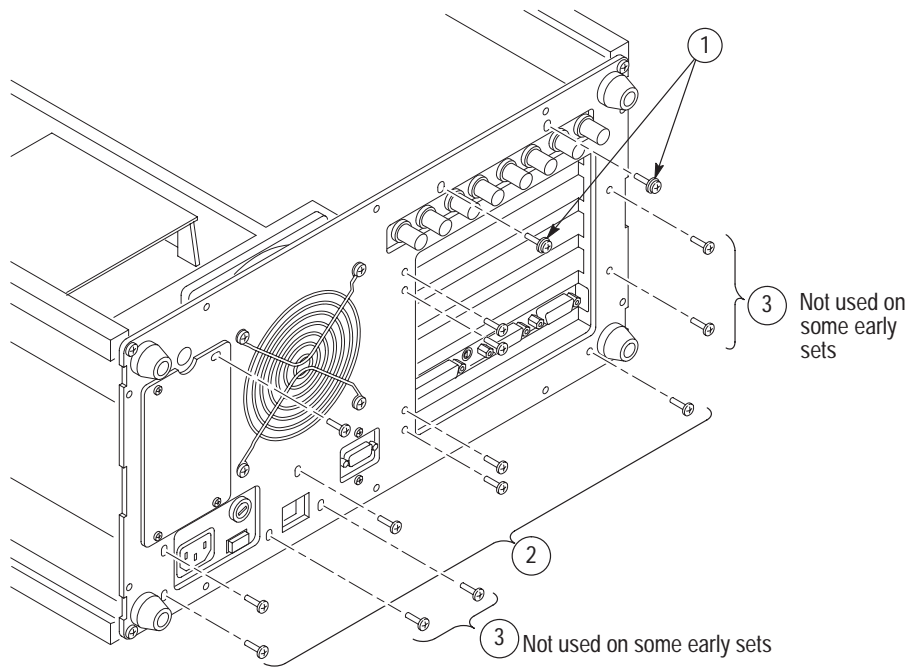

Figure 11: Rear panel screw removal (VM700A with VMTB/VMTX)
①		6-32 X 0.312 in Pozidriv with washer Tektronix Part Number 211-0658-00	12*
②		6-32 X 0.312 in Pozidriv Tektronix Part Number 211-0507-00	11*
③		6-32 X 0.250 in Pozidriv (not used in older measurement sets) Tektronix Part Number 211-0504-00	4*
2. Remove the screws as shown in Figure 11.